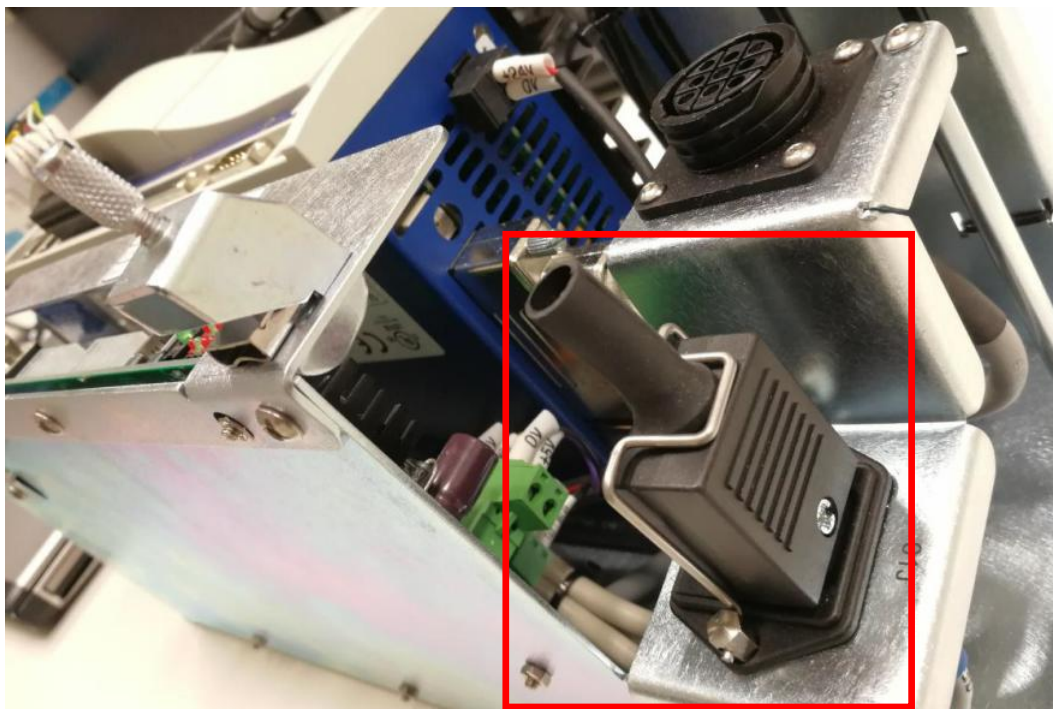

Figure 17
22. Unplug Vertical Type Power Connector from Kollmorgen Module as below Figure 17.